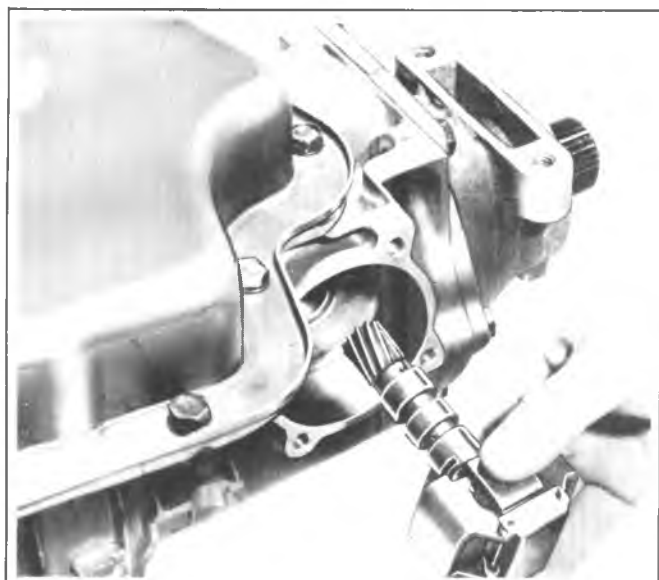

Fig. 7A-187C--Installing Governor Assembly
1. Install governor assembly into case (Fig. 7A-187C).
2. Attach governor cover and gasket with four (4) attaching bolts. Torque bolts to 18 ft. lbs.